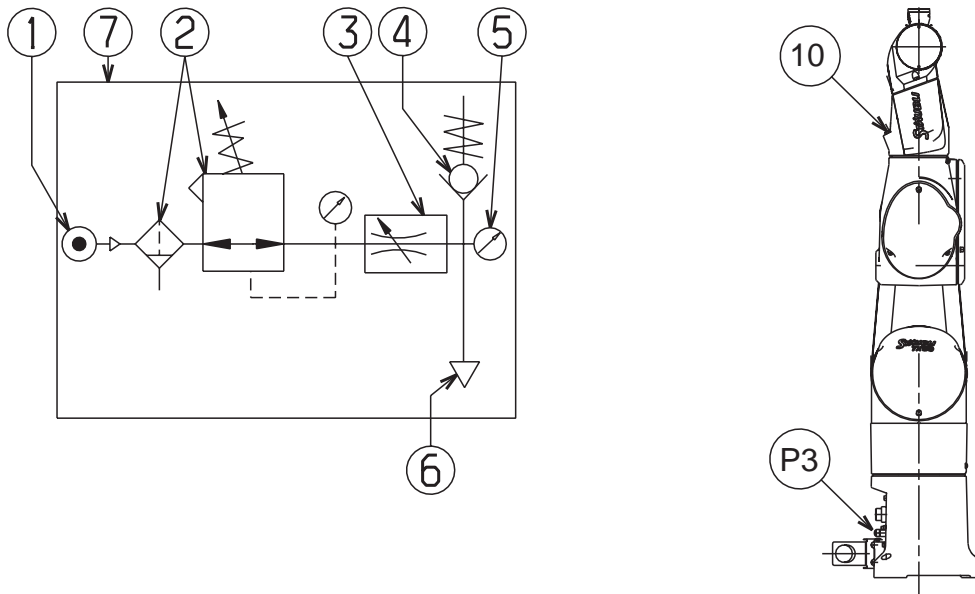

Figure 1.12
1.10.2. INSTALLATION (figures 1.12 and 1.13)